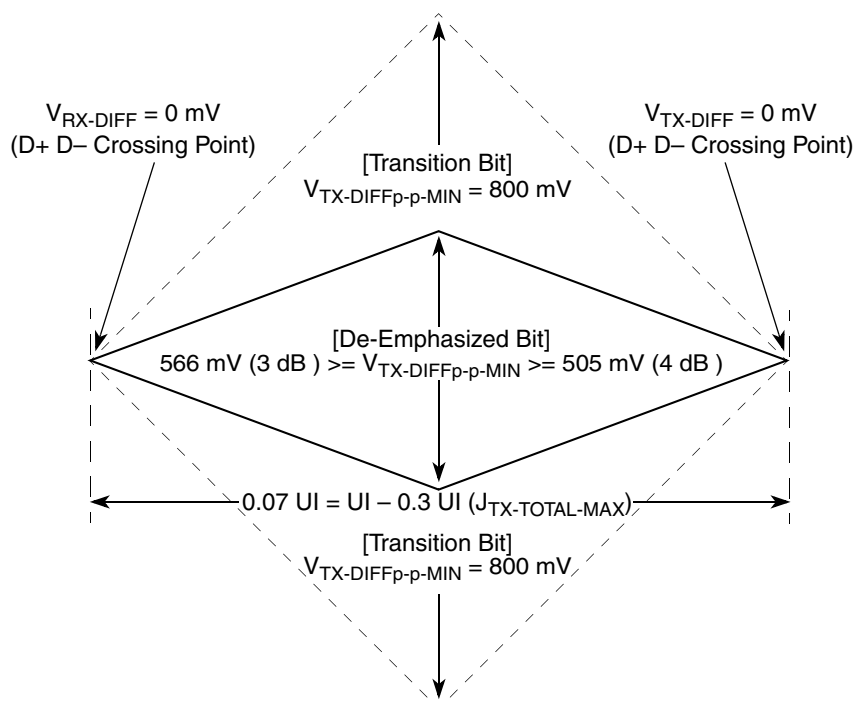
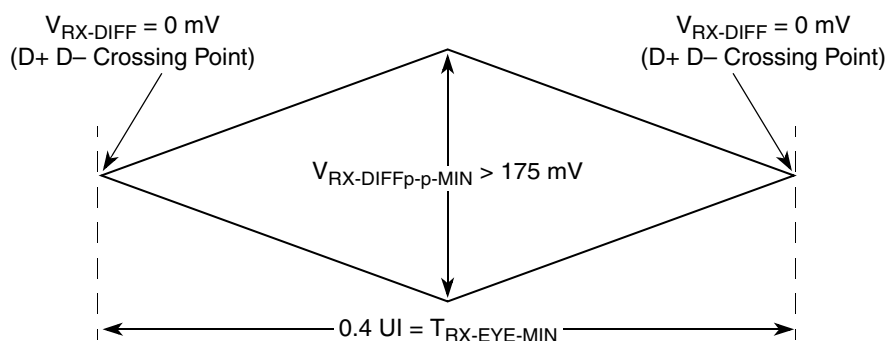
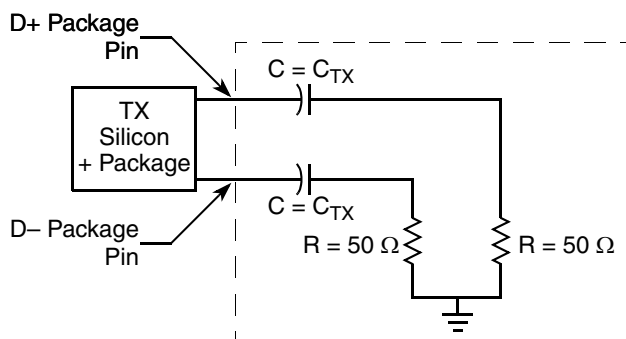

Figure 55. Minimum Transmitter Timing and Voltage Output Compliance Specifications
**Figure 56. Minimum Receiver Eye Timing and Voltage Compliance Specification**
Figure 57. Compliance Test/Measurement Load
2. Specified at the measurement point into a timing and voltage compliance test load as shown in Figure 57 and measured over any 250 consecutive TX UIs. (Also refer to the transmitter compliance eye diagram shown in Figure 55.)
4. The Transmitter input impedance shall result in a differential return loss greater than or equal to 12 dB and a common mode return loss greater than or equal to 6 dB over a frequency range of 50 MHz to 1.25 GHz. This input impedance requirement applies to all valid input levels. The reference impedance for return loss measurements is 50 ohms to ground for both the D+ and D- line (that is, as measured by a Vector Network Analyzer with 50 ohm probes—see Figure 57). Note that the series capacitors  $C_{TX}$  is optional for the return loss measurement.
5. Measured between 20-80% at transmitter package pins into a test load as shown in Figure 57 for both  $V_{TX-D+}$  and  $V_{TX-D-}$ .
The TX eye diagram in Figure 55 is specified using the passive compliance/test measurement load (see Figure 57) in place of any real PCI Express interconnect + RX component.
2. Specified at the measurement point and measured over any 250 consecutive UIs. The test load in Figure 57 should be used as the RX device when taking measurements (also refer to the Receiver compliance eye diagram shown in Figure 56). If the clocks to the RX and TX are not derived from the same reference clock, the TX UI recovered from 3500 consecutive UI must be used as a reference for the eye diagram.
4. The Receiver input impedance shall result in a differential return loss greater than or equal to 15 dB with the D+ line biased to 300 mV and the D- line biased to -300 mV and a common mode return loss greater than or equal to 6 dB (no bias required) over a frequency range of 50 MHz to 1.25 GHz. This input impedance requirement applies to all valid input levels. The reference impedance for return loss measurements for is 50 ohms to ground for both the D+ and D- line (that is, as measured by a Vector Network Analyzer with 50 ohm probes - see Figure 57). Note: that the series capacitors CTX is optional for the return loss measurement.
The RX eye diagram in Figure 56 is specified using the passive compliance/test measurement load (see Figure 57) in place of any real PCI Express RX component.
Note: In general, the minimum Receiver eye diagram measured with the compliance/test measurement load (see Figure 57) is larger than the minimum Receiver eye diagram measured over a range of systems at the input Receiver of any real PCI Express component. The degraded eye diagram at the input Receiver is due to traces internal to the package as well as silicon parasitic characteristics which cause the real PCI Express component to vary in impedance from the compliance/test measurement load. The input Receiver eye diagram is implementation specific and is not specified. RX component designer should provide additional margin to adequately compensate for the degraded minimum Receiver eye diagram (shown in Figure 56) expected at the input Receiver based on some adequate combination of system simulations and the Return Loss measured looking into the RX package and silicon. The RX eye diagram must be aligned in time using the jitter median to locate the center of the eye diagram.
The reference impedance for return loss measurements is 50. to ground for both the D+ and D- line (that is, as measured by a Vector Network Analyzer with 50. probes—see Figure 57). Note that the series capacitors, CTX, are optional for the return loss measurement.
The AC timing and voltage parameters must be verified at the measurement point, as specified within 0.2 inches of the package pins, into a test/measurement load shown in Figure 57.